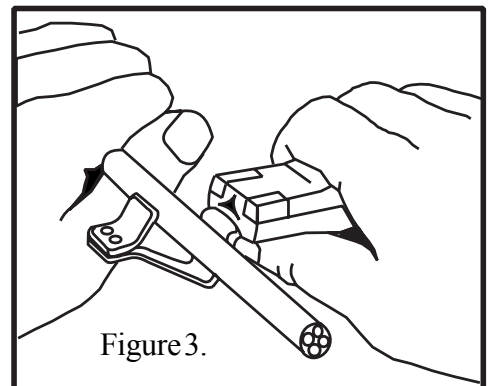

Figure 3.
- c. Push the spring tension guide open with thumb, and place stripper on cable as shown in Figure 3.